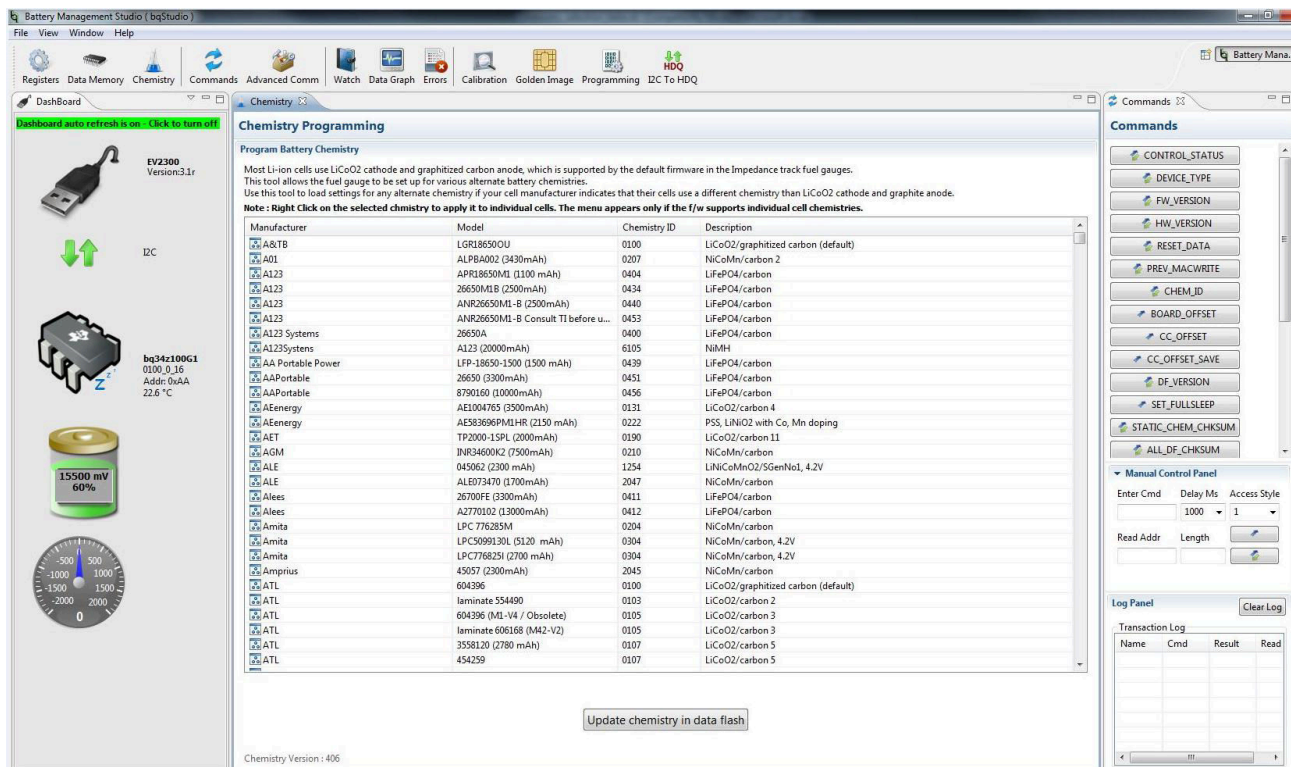

Figure 3-4. Chemistry Screen
Press the *Chemistry* button to select the Chemistry window. See Figure 3-4.
- Select the ChemID that matches your cell from the table (Figure 3-4).